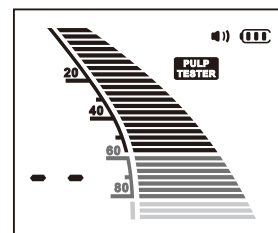

Fig.37
- 2) No sensation at the maximum stimulus (--) suggests that the tooth is non-vital, This conclusion should be confirmed by thermal testing.(Fig.37)